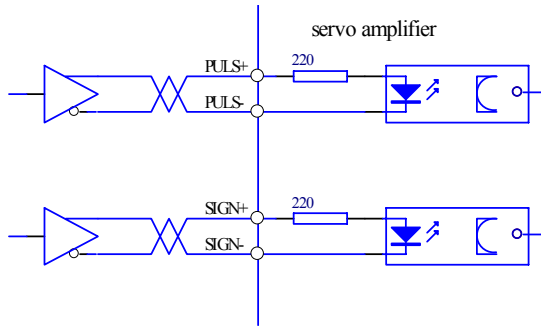
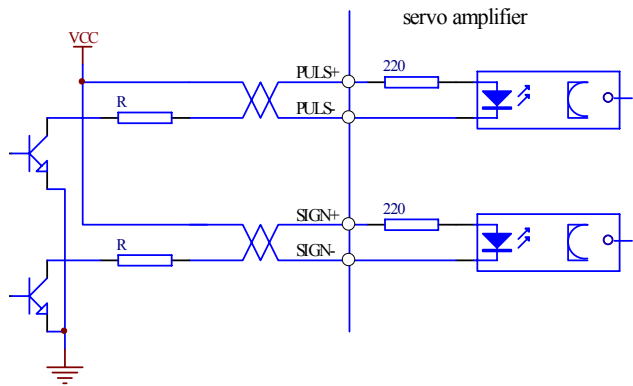

Figure 3.6 Type3 of the differential drive mode of pulse input interface
Figure 3.7 Type3 of the single-end drive mode of pulse input interface
- (1) To transmit the data pulse signal correctly it is recommended to use the differential line drive circuit as shown in Figure 3.6
- (2) When used the differential drive circuit the IC AM26LS31, MC3487, the same kind of RS422 line drive will be adopted.
- (3) When used the single-end drive circuit as shown in Figure 3.7, the transmission rate will slow down. The driving current is 10~15 mA and the external maximum voltage is limited to 25 volts. According to the above condition the series resistor can be determined. The experience data are as the following: $V_{CC} = 24\text{V}$, $R = 1.3\text{k}\sim 2\text{k}$;